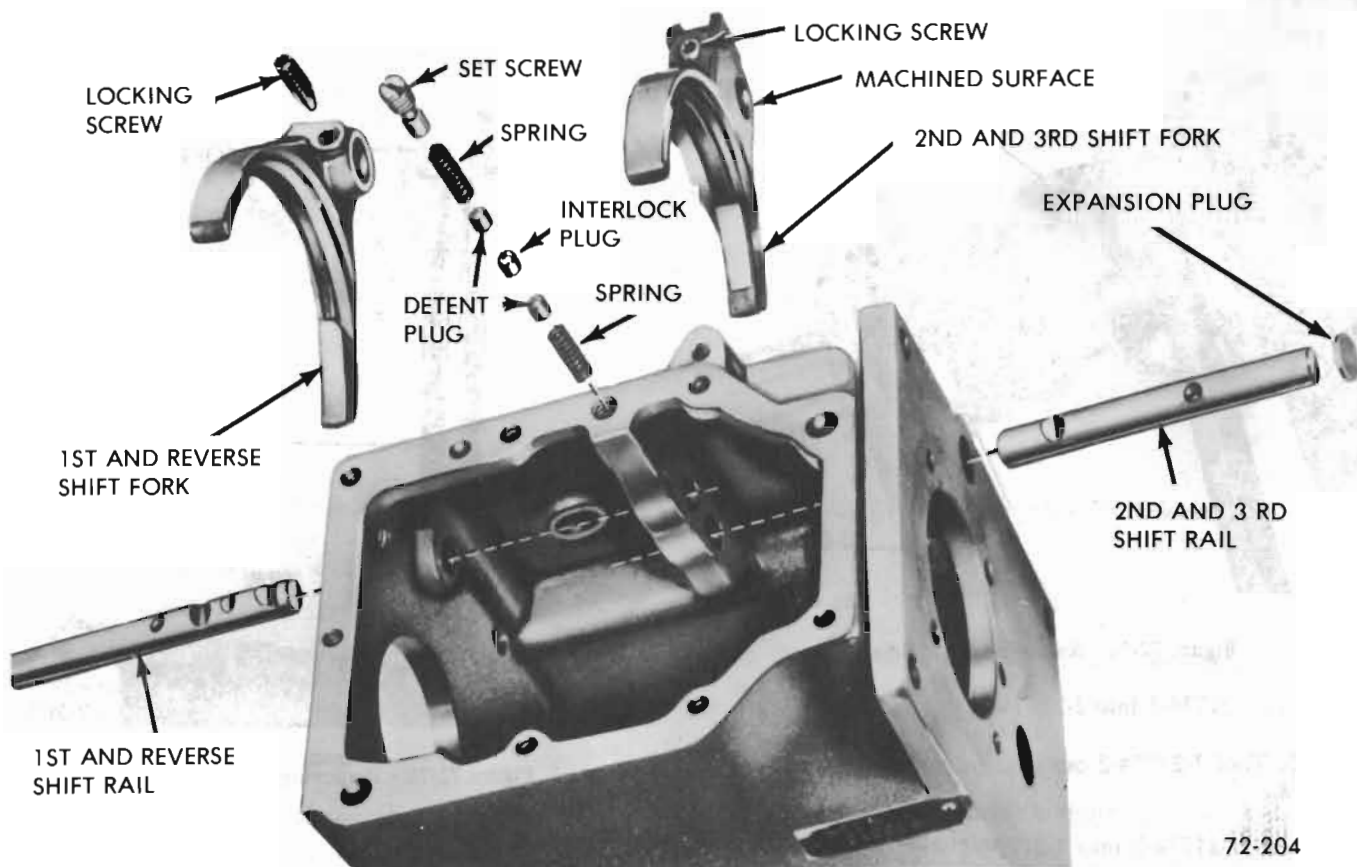

Figure 72-73 - Shift Rails, Forks, and Detent Plugs
6. Remove set screw, spring, interlock plug, detent plugs, and spring. See Figure 72-73.
7. With transmission in neutral, remove shift fork to rail locking screws. See Figure 72-73.